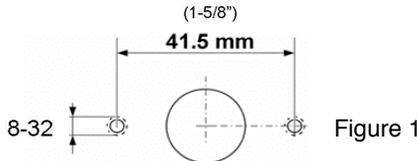

Figure 1
Step 1: Prepare the mounting and cable holes according to Figure 1. The maximum allowed cable/spindle hole diameter is 11 mm (7/16”) (if located under the lock body).